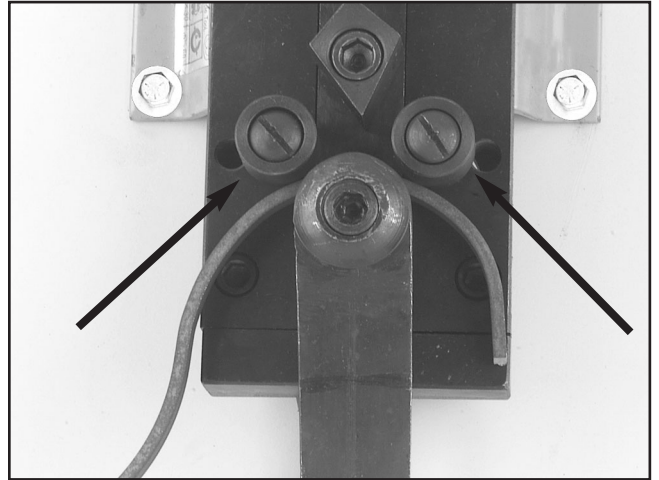

Figure 8. Guide rollers positioned in the inner location for smaller radii.
5. Keep rotating the crank until the desired radius is achieved (**Figure 8 and 9**).